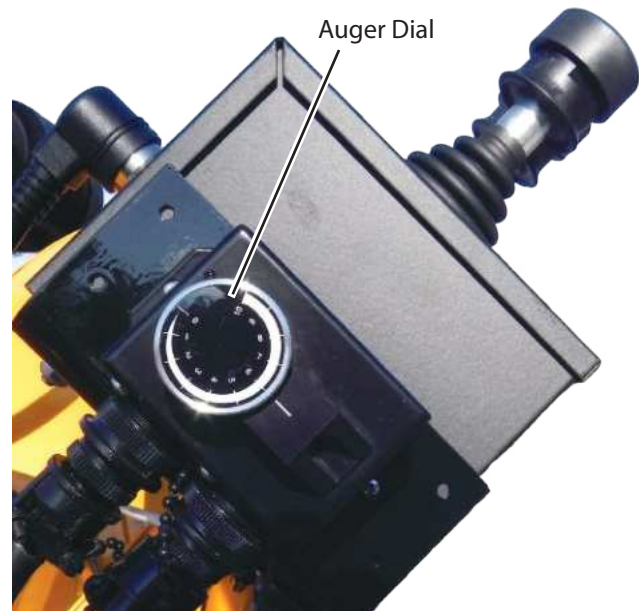

Figure 4-45. Auger Dials
3. Adjust material height at the endgate using the auger dial beside the steering control box. **(Figure 4-45)**